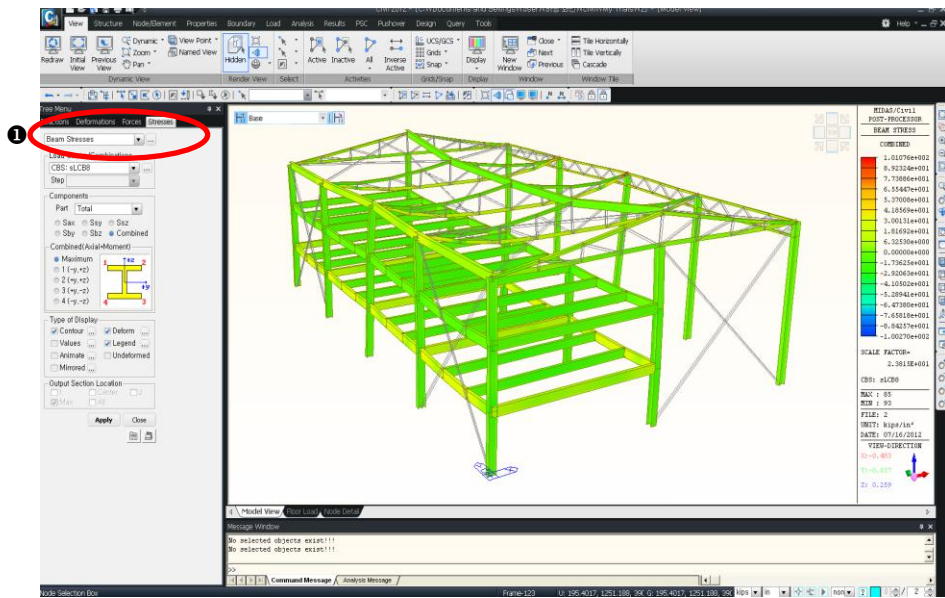

Figure 2.34 Combined Stress Diagram of Beams
4. Select the **Stresses** in the post-processing functions tab (Fig.2.34–①).